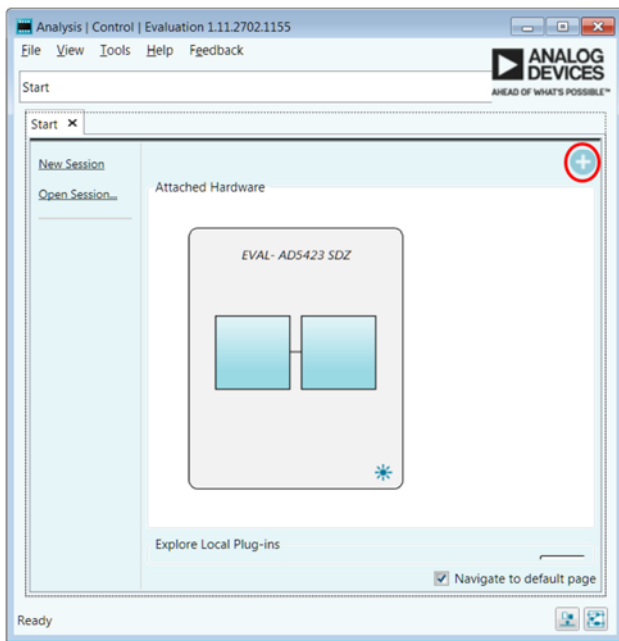
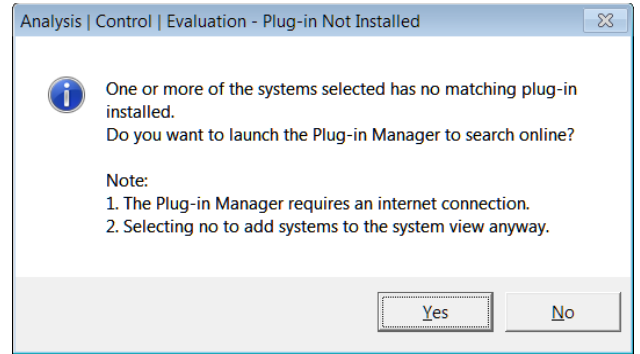
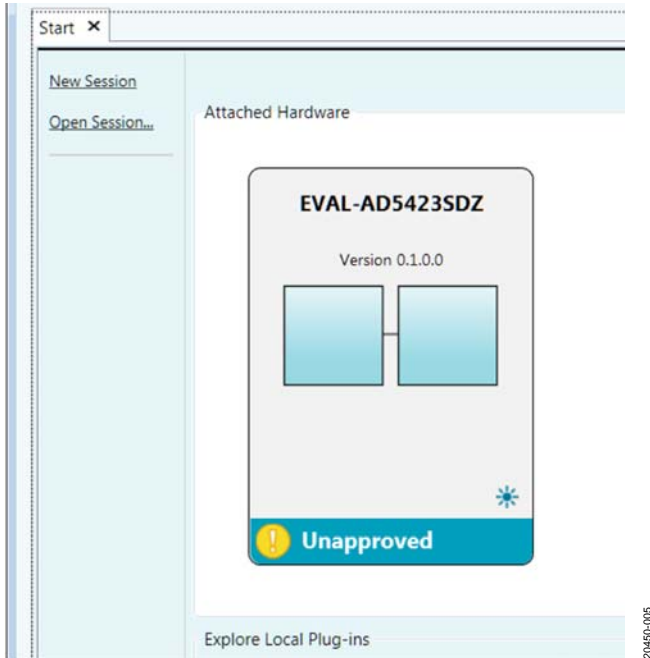

Figure 2. EVAL-AD5423SDZ Plugin Not Installed
Figure 3. Installing the Plugin Pop-Up Window
Figure 5. Attached Hardware Section with the EVAL-AD5423SDZ Plugin Connected
5. When setting up the evaluation board for the first time, it can be required to install the EVAL-AD5423SDZ plugin. If the plugin appears as shown in Figure 5, then proceed to Step 7. If the plugin appears as shown in Figure 2, click on the button circled in red and the pop-up window shown in Figure 3 appears. Click Yes.
7. Find and select the **Board.AD5423** plugin and click **Install Selected**. The EVAL-AD5423SDZ plugin is now installed and displays as shown in Figure 5.